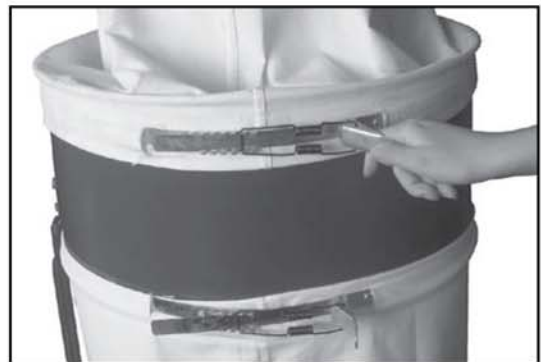

Fig. 10
- 2.) Engage the catch end of the strap with the clasp in the appropriate slot to ensure a tight fit (Fig. 10).